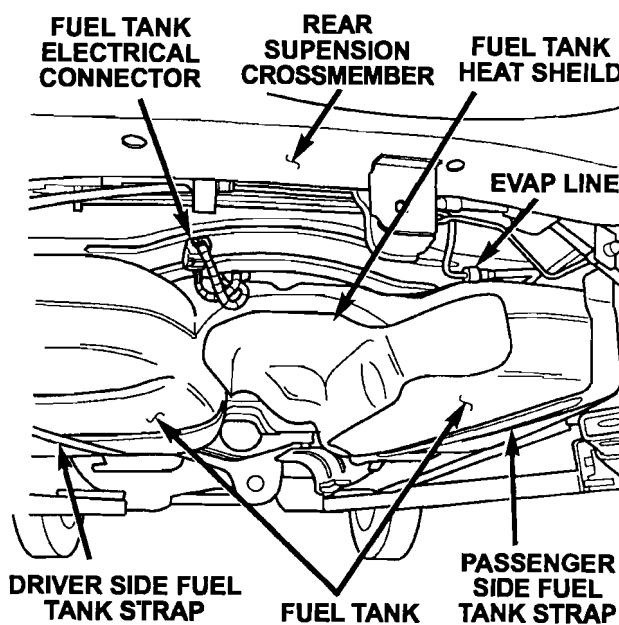

Figure 3
- h. Disconnect the fuel tank electrical connector located at the rear of the tank (Figure 3).
29. Connect the fuel tank electrical connector located at the rear of the tank (Figure 3).